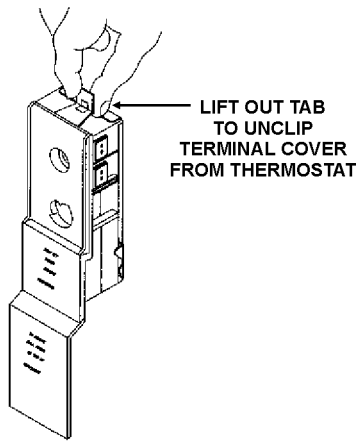

FIGURE 17.
- B. **Models with Upper or Lower Thermostat with High Limit:** Lift out the tab as shown in Figure 17 to unclip the terminal cover from the thermostat. The terminal cover can now be removed from the thermostat.